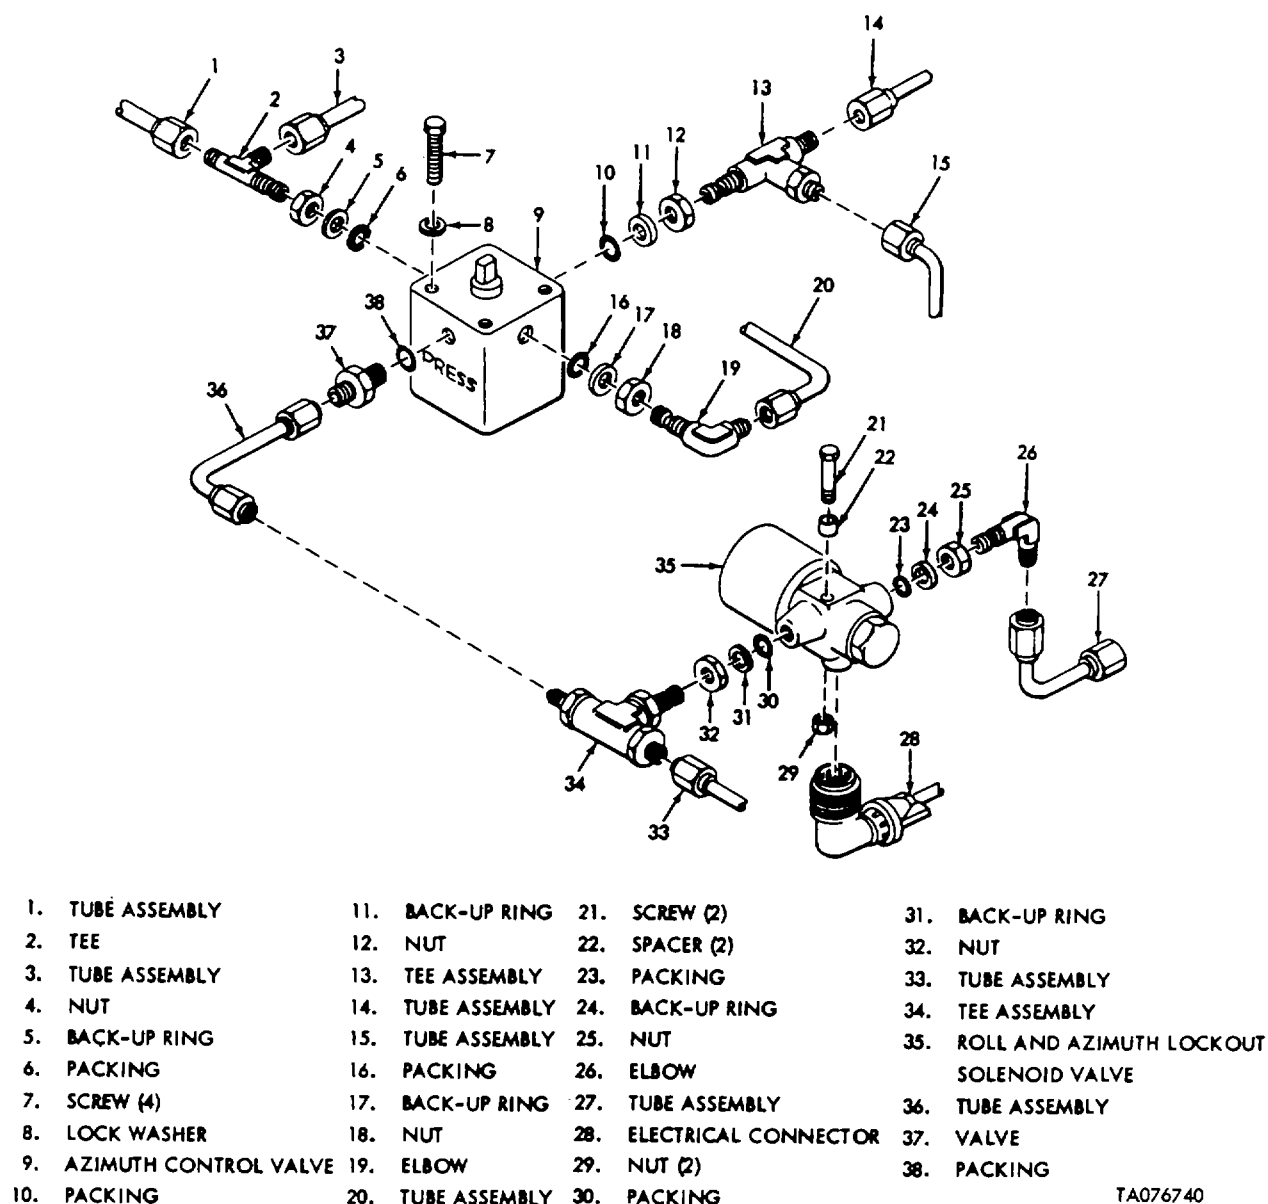

Figure 3-45. Roll and Azimuth Lockout Solenoid Valve and Azimuth Control Valve Removal
a. Removal (fig. 3-45).
- (1) Disconnect tube assemblies (36, 14, 15, 20, 27, 33, 3, and 1) from valves (9 and 35).